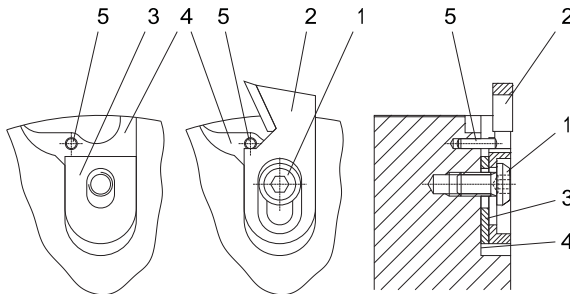

Fig. 8
(See Fig. 8)
2. Loosen the screw (1) with the Allen key and completely remove it from the knife seat.
3. Remove the grooving knife (2) and -if necessary- the shim from the knife seat (3).
4. Clean the knife seat (4) and all the corresponding components that go with it. Be sure all clamping surfaces are free from dirt, oil, grease and water.
6. Insert precisely the new grooving knife (see Fig. 8).
7. Put back the correct screw and press the grooving knife properly onto the positioning pin (5).